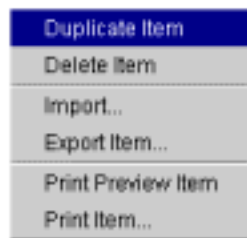

Figure 5.144 Pop-up Commands
2. On the Report window, position the mouse cursor on the report item to be deleted. Right-click and hold the button. A pop-up menu of commands is displayed (Figure 5.144).